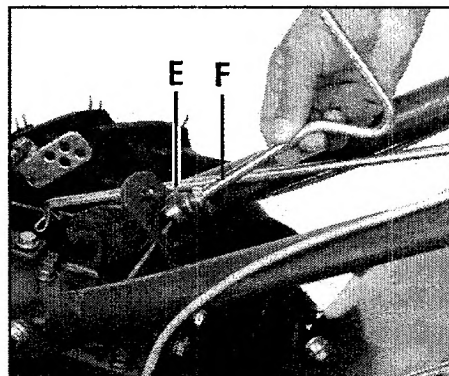

Figure 2-6: Install height adjustment handle.
6. Move the handlebar up or down to align the hole in the cross-brace with one of the four slots in the curved height adjustment bracket. Place the keyed washer (E, Figure 2-6) on the height adjustment handle (F) with the raised keys (edges) on the washer facing down.